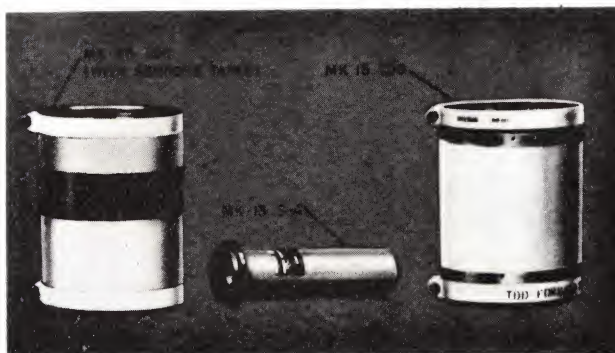

Figure 2-3. Fuze Components.
The Mk 322 Mod 0 radio frequency (RF) fuze is recommended for use in the AIM-9C; however, both the Mk 322 and the Mk 323 Mod 0 infrared (IR) fuze are made up of a target-detecting device (TDD) and a Mk 13 safety-arming (S-A) device. The RF fuze uses the Mk 15 RF TDD and the IR fuze uses the Mk 24 IR TDD. The fuze components are shown in figure 2-3. The fuze is located at the after end of the GCG. The S-A, which is inserted into the TDD only after it is attached to a GCG, fits into the recess at the forward end of the warhead. The TDD has clamp rings at each end for clamping it to the GCG and to the warhead.